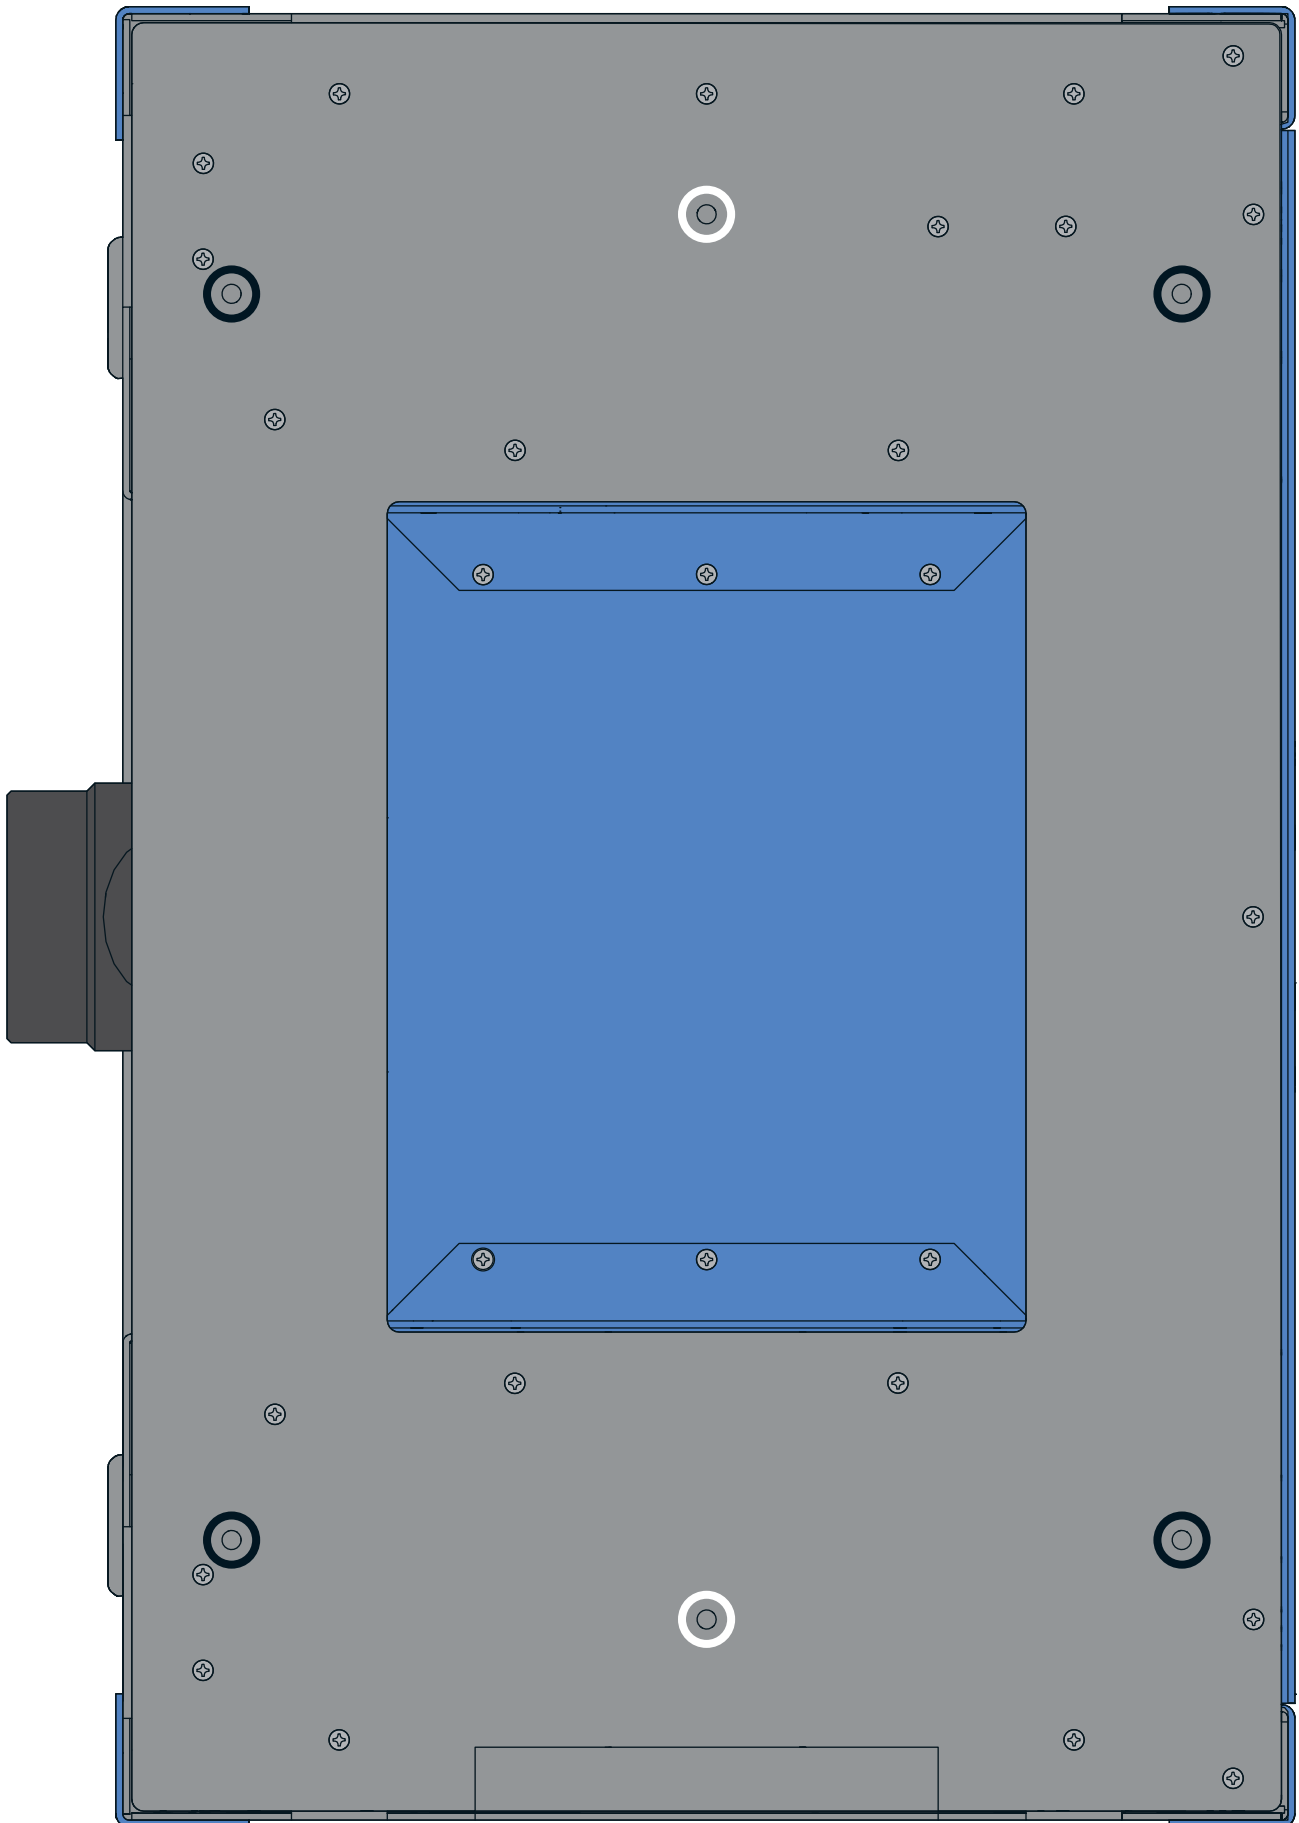

Fig. 23 - Top View
1. The Cabinet Top (31) has four predrilled mounting holes, circled in black in **Fig. 23**, that are spaced specifically to fit the ProMax Cast Iron Router Tabletop (63481, sold separately) and the Pro Phenolic Router Tabletop (49428, sold separately). **Please note that, if you are installing the Pro Phenolic Router Tabletop on the Steel Router Table Cabinet, you will need to add spacer strips between the table and the Cabinet Top to provide clearance for the carriage bolts used to secure the router table fence to the Pro Phenolic table.**
The two extra mounting holes, circled in white in **Fig. 23**, allow installation of additional screws if installing the HPL Router Tabletop (46924, sold separately) or another tabletop with a bottom face into which screws can be driven.